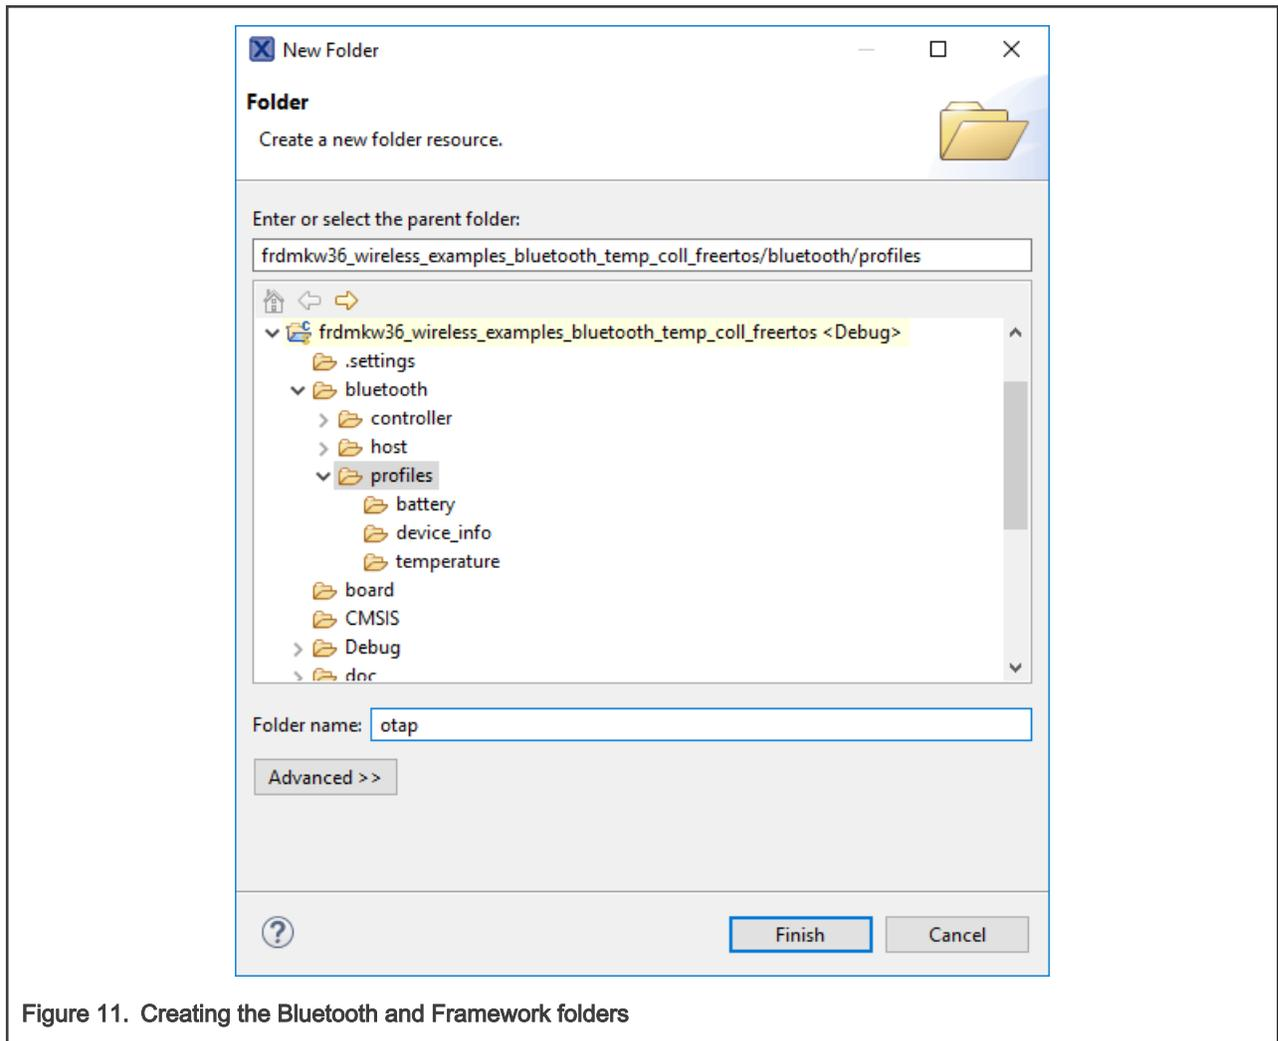

Figure 11. Creating the Bluetooth and Framework folders
1. Expand the **bluetooth** and **framework** folders in your workspace. Select the folder needed for updates and click the right mouse button. Select **New -> Folder**. The **Folder** window appears to provide the same name as the missing folder in the source directory, as shown in Figure 11.